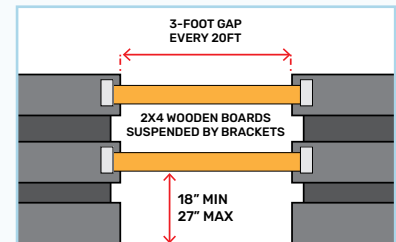

Figure 2
- The barrier must be easily removable by emergency personnel (see Figure 2).